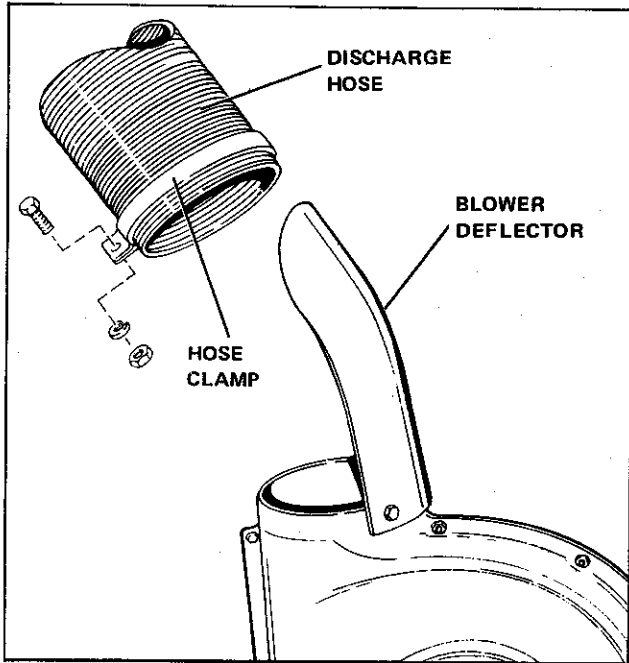

Figure 4. Discharge Hose Installation
- Place the discharge hose over the blower deflector and attach it to the blower housing with a hose clamp. Tighten screw. (See figure 4.)